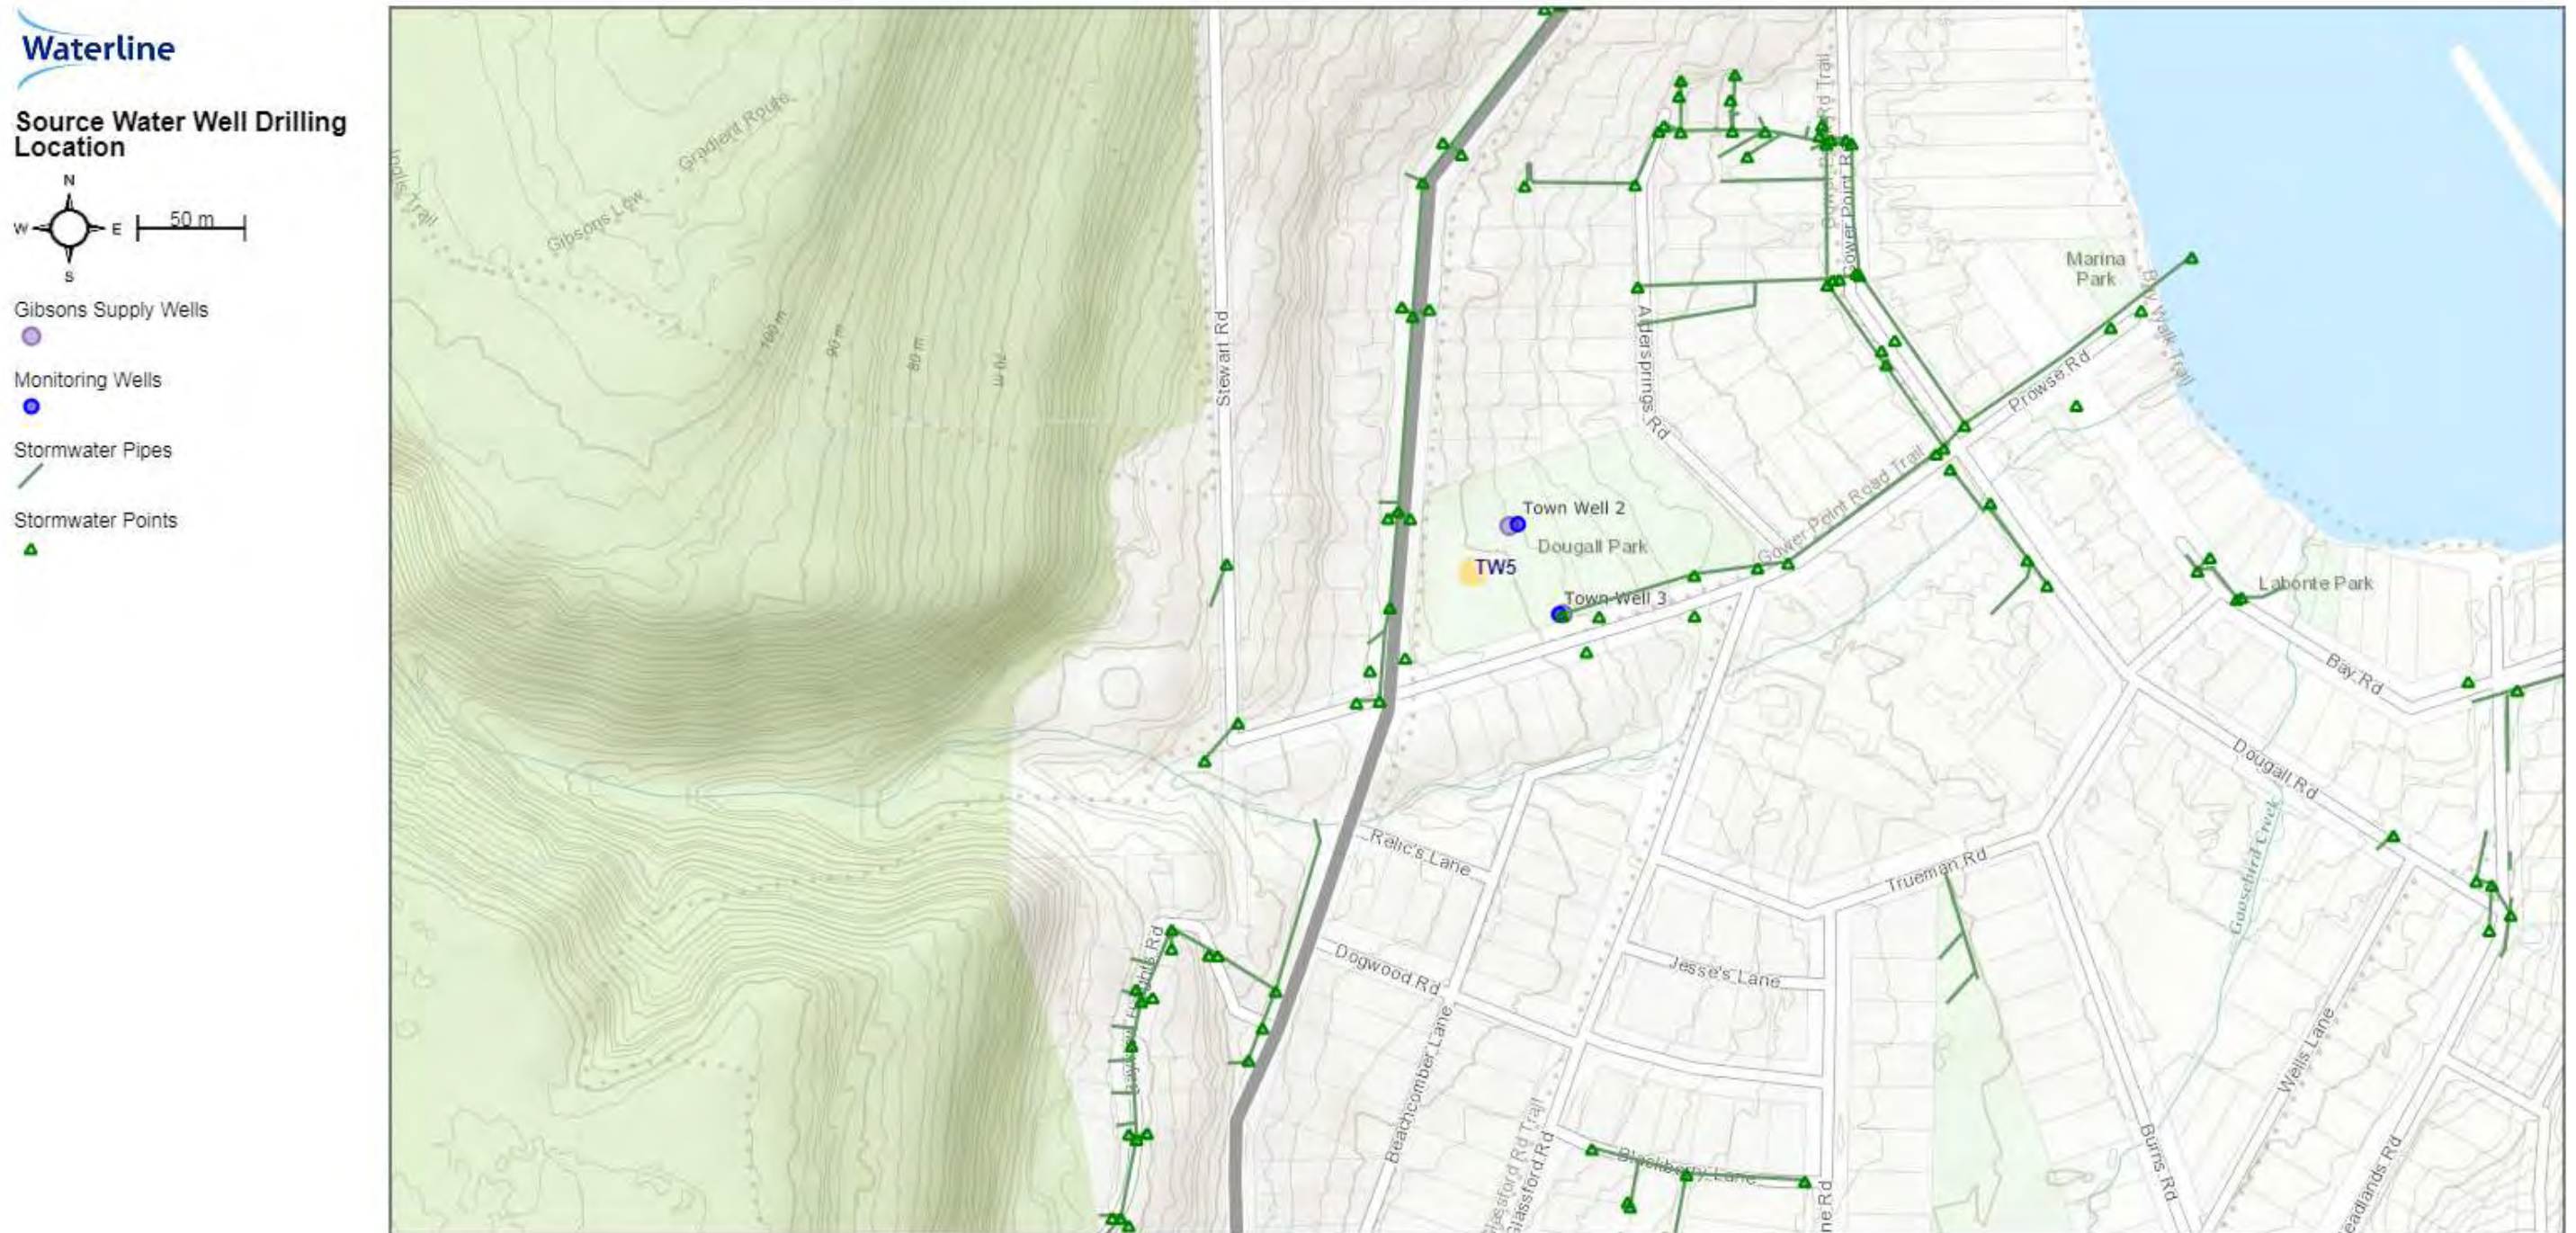

Figure 2: Town Well #5 Drilling Location (Dougall Park)
1. Ensuring proper well control is in place prior to starting any drilling activities. The contractor should be capable of diverting artesian flow (range of 45 to 203 m³/day) to the nearest stormwater outfall system. There are multiple stormwater outfall points (>10) within a 100 m radius of Dougall park (Figure 2).
10. The water produced during the development task should be diverted to the nearest stormwater outfall point (Figure 2). Sediment from the development water should be removed prior to entering the storm drain outlet. This could be achieved using a settling tank (e.g. roll off bin etc.) and pumping the water off the top of the tank. Also, sediments pads (e.g. hay bails etc.) could be laid near the discharge point as a second approach to filtering the water.